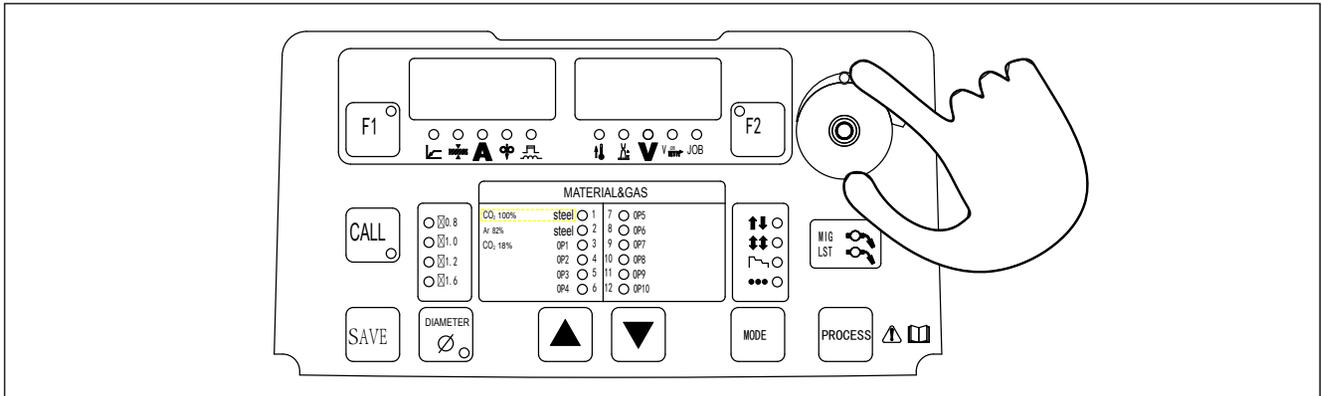

Fig. 4-3-14: Restore the factory setting
Press adjustment knob (1) for about 5 seconds, it comes back to factory set (see Fig. 4-3-14).